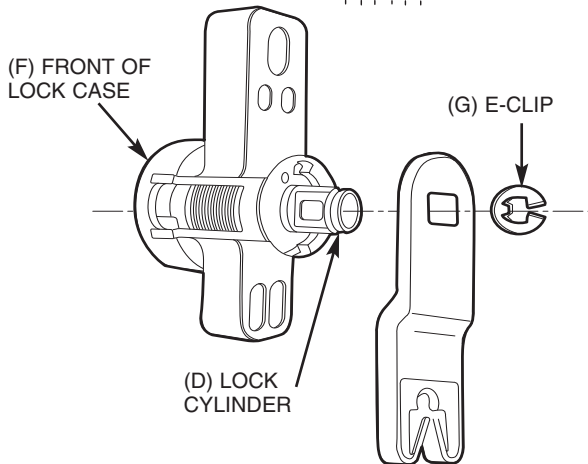

FIGURE 4
- A. Before the lock is removed from the installed location, record the orientations of the lock lever and anti-theft switch (if so equipped). If the lock is in its normal position, note the direction at which the lever is pointing (forward, rearward, upward or downward of the vehicle). If the lock is not in its normal position, look at the back of the lock cylinder sub-assembly and note the direction at which the lock lever is pointing with respect to the drainage hole located at the bottom of the lock case (F). Note also the offset of the lever (refer to Figure 4).**
- B. Carefully remove the E-clip (G) and disassemble the lock lever from the back of the lock. Keep the E-clip (G), lever and anti-theft switch (if so equipped) in a secured place until the new lock has been built and is ready to be installed in the vehicle.**